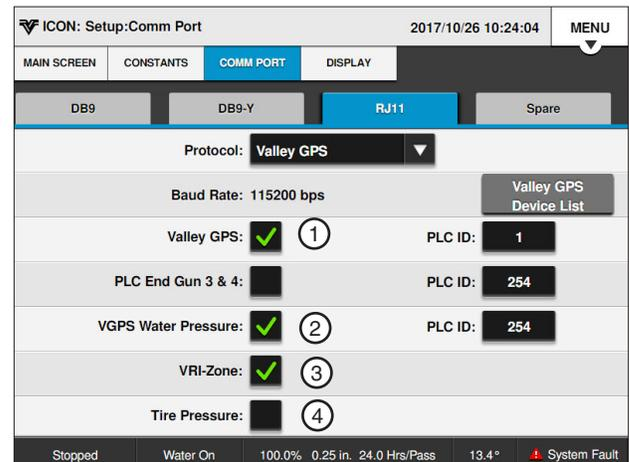

Figure 39-1 1. PLC End Guns 3 & 4 4. Tire Pressure
2. Check the **VGPS Water Pressure** checkbox to enable the monitoring system. Refer to Figure 39-1.
VRI-Zone is used to set the protocol for the VRI-Zone option. Refer to Figure 39-1.
2. Check the **Tire Pressure** checkbox to enable the monitoring system. Refer to Figure 39-1.